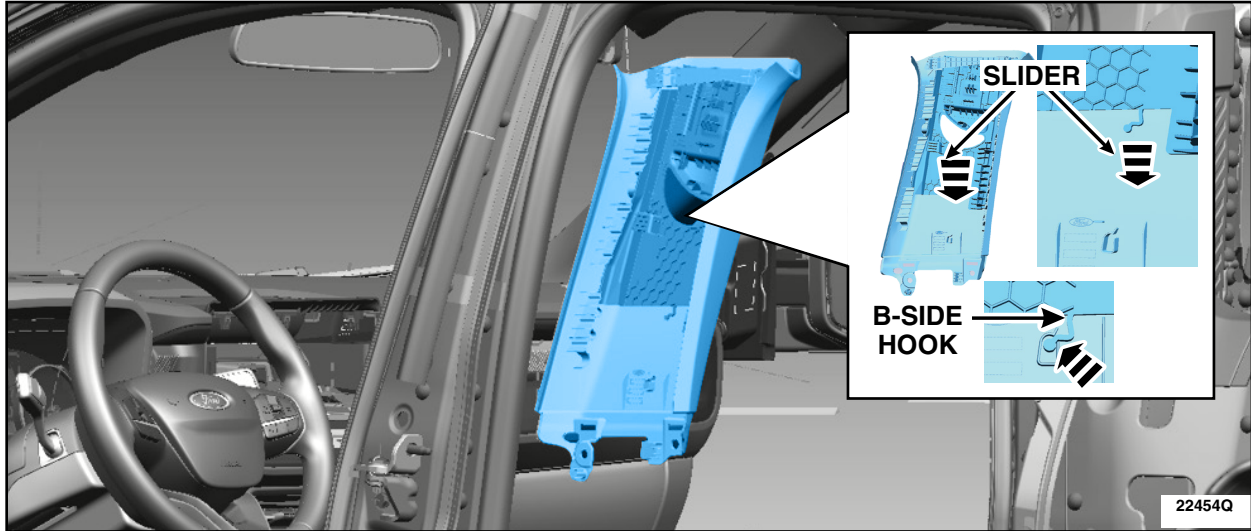

FIGURE 6
9. On both sides adjust the position of the B-pillar Slider downward, pull the slider down to the lower position and engage the B-side hook into the pocket. See Figure 6.